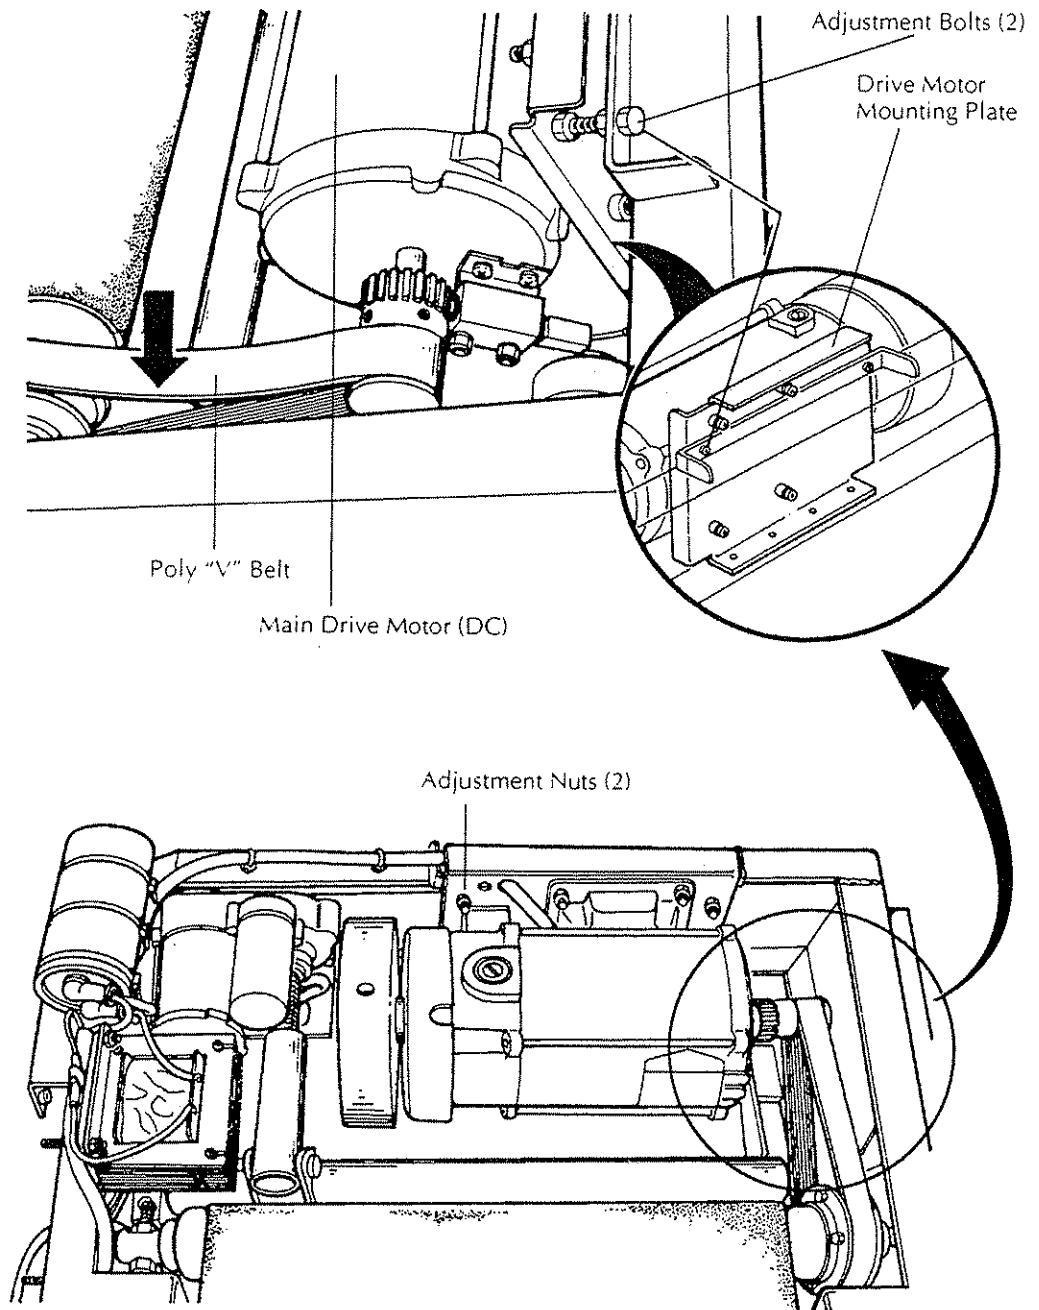

Figure 4-21: Main Drive Motor (DC) and Poly "V" Belt
3. Loosen the adjusting nut that secures each end of the two adjustment bolts. These bolts are located on the upper portion of the drive motor mounting plate. See Figure 4-21.
4. Turn each of the two adjustment bolts a quarter-turn clockwise. See Figure 4-21.
6. Tighten the nuts securing each of the two adjustment bolts. See Figure 4-21.